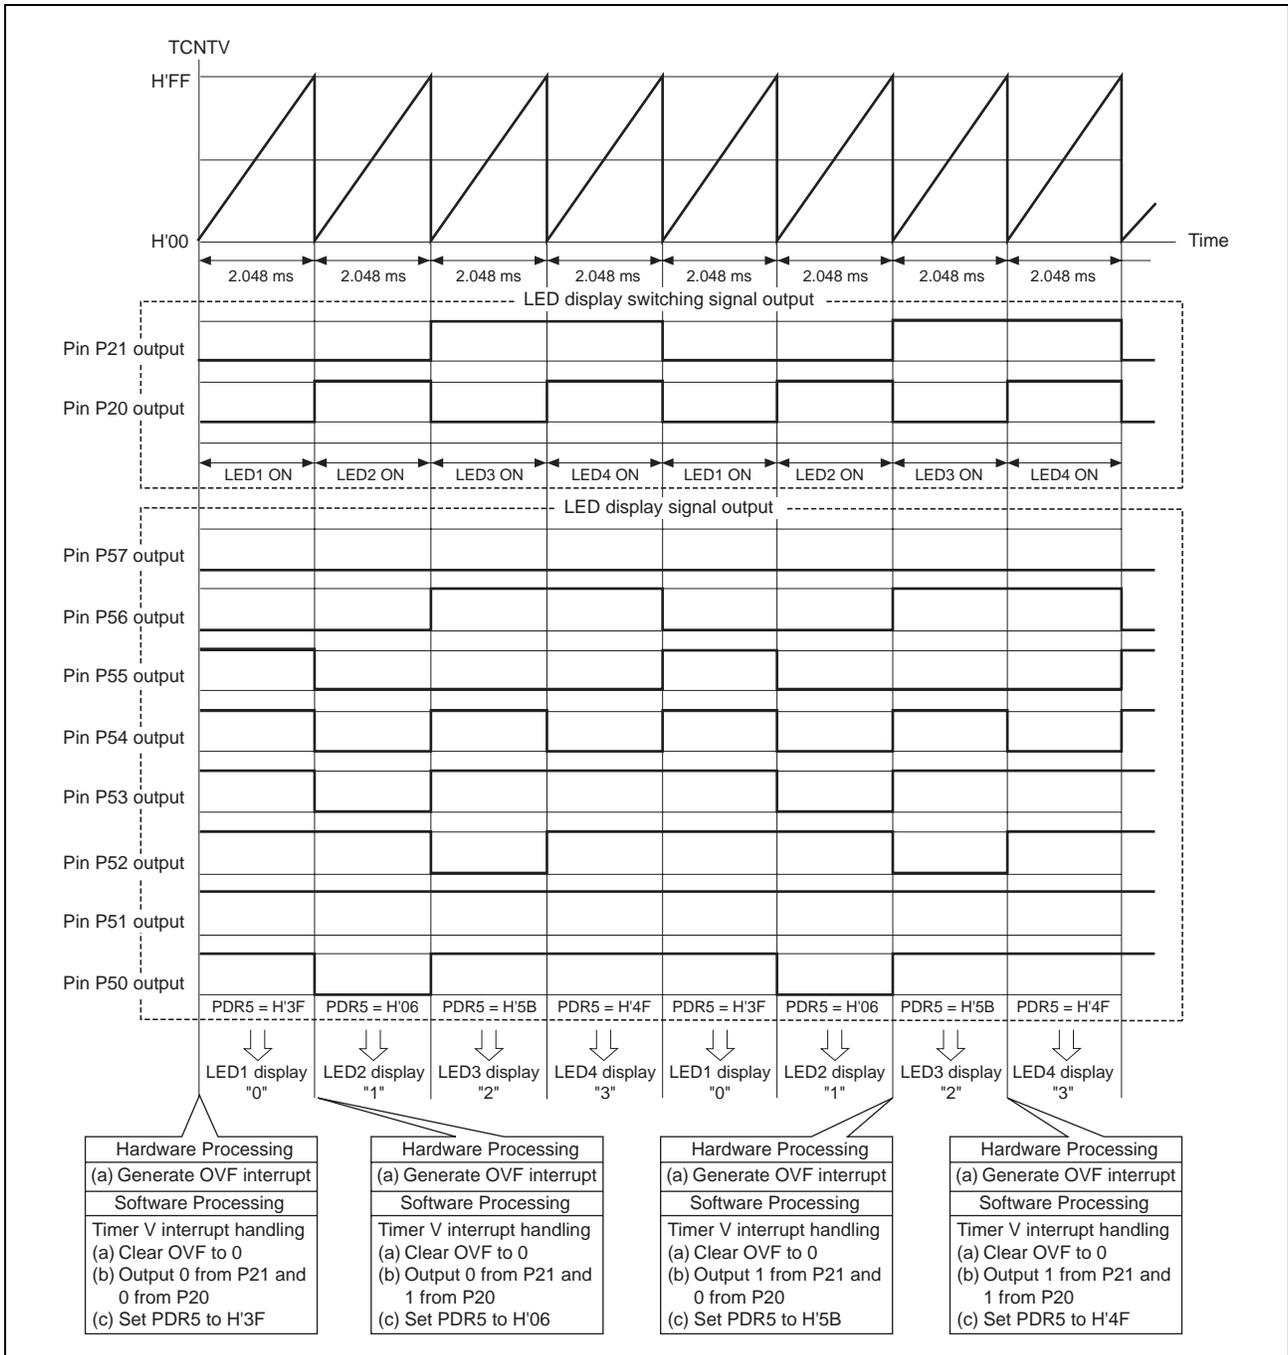

Figure 7 Operating Principle of 7-Segment LED Display Control
- (2) The operation principles of 7-segment LED display control are shown below. Displaying “3210” using LED4 to LED1 is illustrated in figure 7. As shown in figure 7, dynamic 7-segment LED display is implemented by illuminating LED4 to LED1 sequentially each timer V overflow cycle.